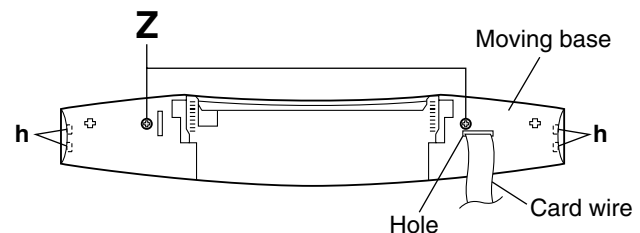

Fig.19
- Before attaching the moving base, pass the card wire of the front board through the hole on the moving base. (See Fig.19.)